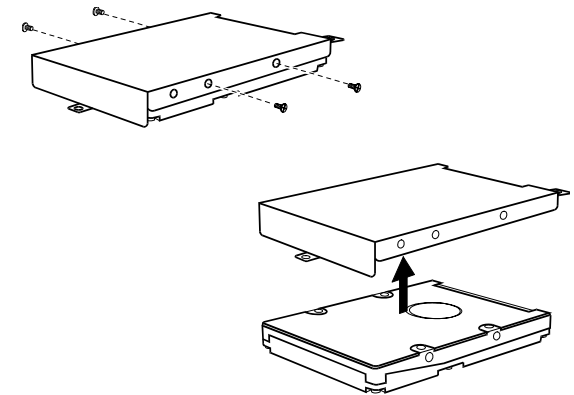

Figure 5-30. Removing the Hard Disk Drive Bracket
1. Attach the bracket to the hard disk drive and secure with four screws on both sides. (Refer to Figure 5-30 earlier.)